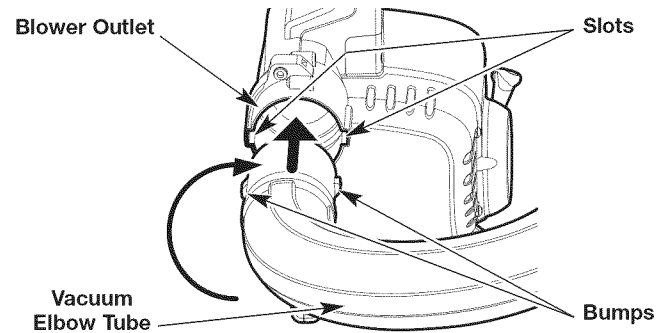

Fig. 9
1. Align the bumps on the vacuum elbow tube with the slots on the blower outlet (Fig. 9). The flared end of the vacuum elbow tube should point to the right.
2. Insert the vacuum elbow tube into the blower outlet (Fig. 9).
3. Twist the vacuum elbow tube clockwise until it locks into place (Fig. 9).